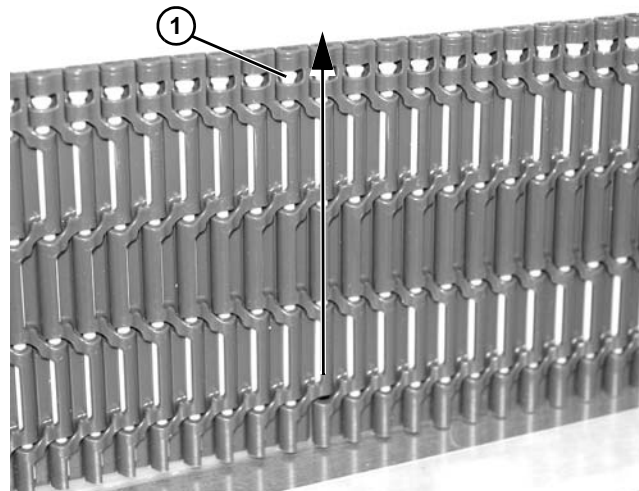

Figure 30
1. Choose one link on either end of the conveyor to remove belt pin. Locate end of rod without retaining feature (Figure 30, item 1).